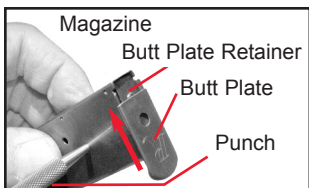

Figure 26
8. To aide in the assembly, insert a punch into one of the Magazine Body's viewing holes. See Figure 26.
9. Slide the Magazine Butt Plate on the bottom of the Magazine Body until the Magazine Butt Plate Retainer tab snaps into the hole on the Magazine Butt Plate. See Figure 26 and 23.